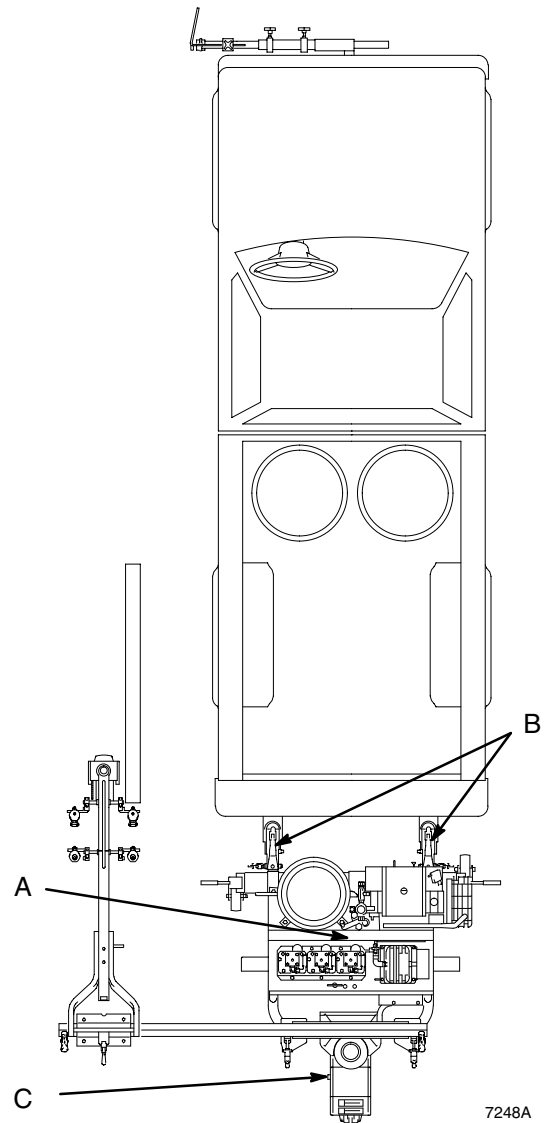

Fig. 3
2. The Road Lazer attaches per Fig. 3.
3. Gross weight, full (A): 1450 lbs.
4. Gross tongue weight per each coupler (B): 480 lbs. (960 lbs. combined)
5. Gross axle weight (C): 500 lbs.